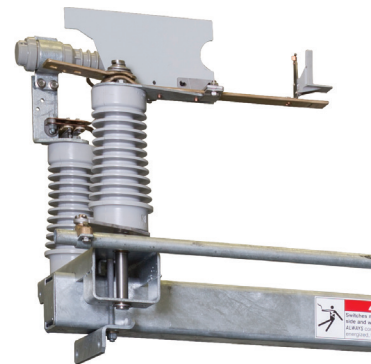

Figure 9. Open-gap wildlife protection.
**Open-gap wildlife protection** deters squirrels and other small animals from making contact across the open gap of an Omni-Rupter Switch. Sectionalizing switches in the normally **Open** position or opened to de-energize a section of line for maintenance do not discourage squirrels from traversing power lines. S&C's blade-mounted, retrofittable barriers force climbing animals to jump over the insulated panel, making it more difficult for these animals to bridge an open gap. See Figure 9.